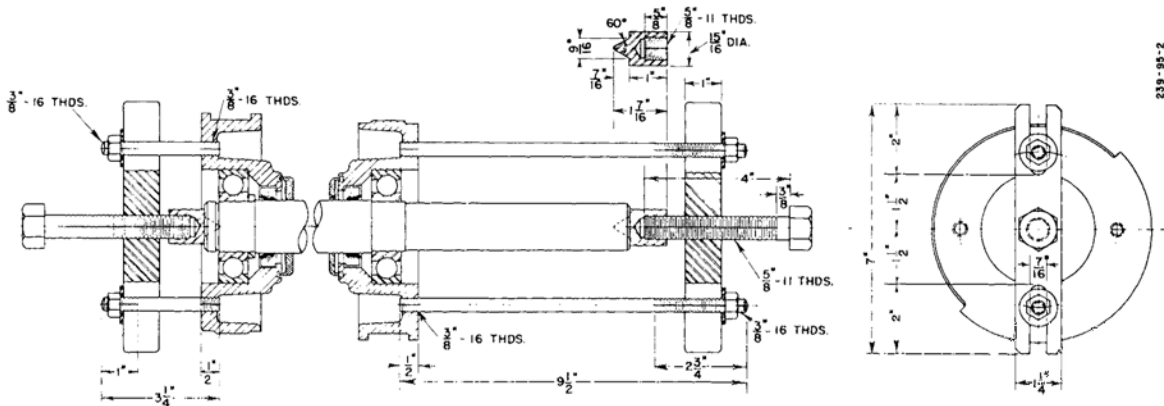

Figure 19:
10. Remove constant level oilers (251) on both thrust end and coupling end. Drain oil from bearing housings (134 and 166).
12. Unscrew shaft nut (110) from shaft.
13. Remove ball bearings (112 and 137) from shaft seat by use of a bearing puller. Details of a recommended puller, capable of removing bearings from all three groups of pumps are shown in Figure 19: on page 33. Care must be used. Puller bar must be square with shaft so that equal pressure is